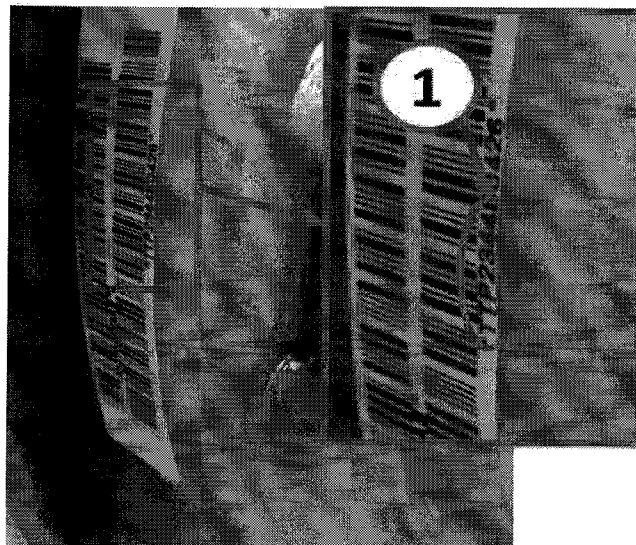

Fig. 3 Torque Converter Label
5. Record the serial number beginning with TTP. See (Fig. 3).